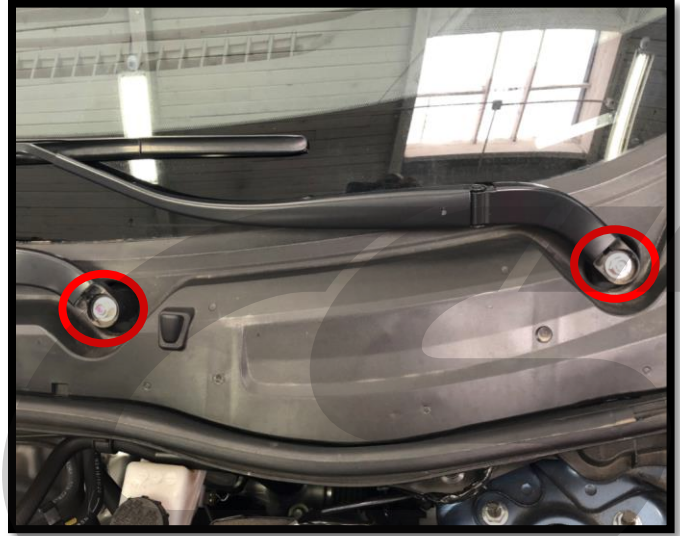

Figure 1c
- f) Remove the two 14mm nuts from the windshield wipers. **Circled in red in Figure 1c.**